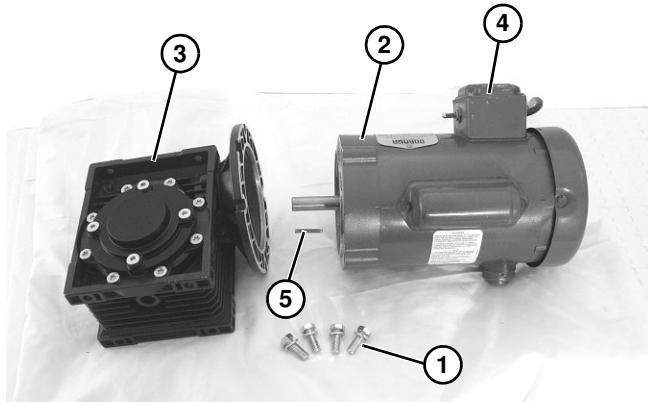

Figure 15
- Remove four screws (**Figure 15, item 1**). Detach motor (**Figure 15, item 2**) from gear reducer (**Figure 15, item 3**), making note of position of switch (**Figure 15, item 4**) for reassembly. Retain motor output shaft key (**Figure 15, item 5**).
- With key (**Figure 15, item 5**) in keyway, slide motor (**Figure 15, item 2**) and gear reducer (**Figure 15, item 3**) together, noting where position of switch (**Figure 15, item 4**) will be during installation on conveyor.
- Install screws (**Figure 15, item 1**) and tighten to 60 in-lb (7 Nm).